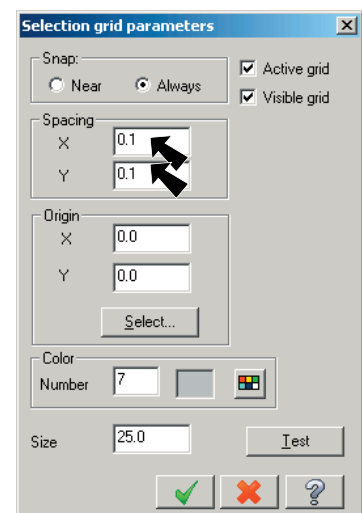

Fig. 26
Step 2. Set: **X and Y Spacing** to **.1**, **Fig. 26.**